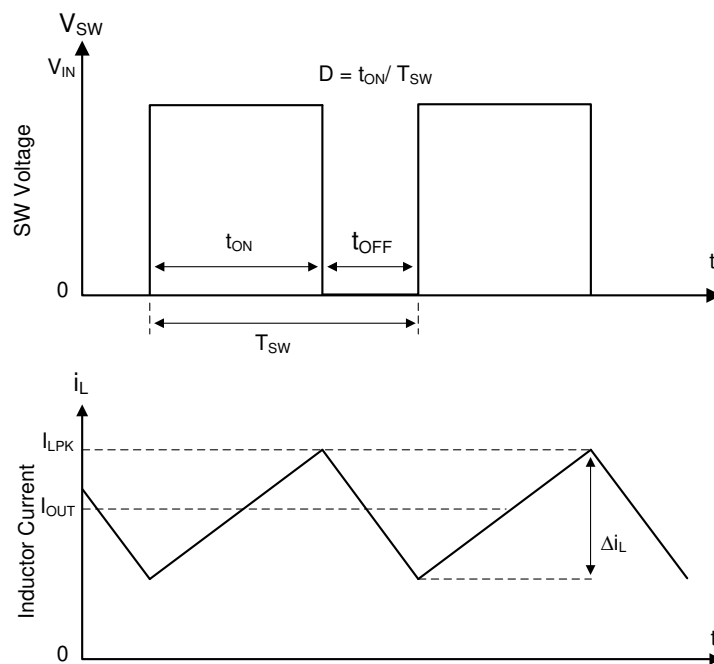

図 7-1. SW Node and Inductor Current Waveforms in Continuous Conduction Mode (CCM)
The following operating description of the LMR51603-Q1 refers to the Functional Block Diagram and to the waveforms in Figure 7-1. The LMR51603-Q1 is a step-down synchronous buck converter with integrated high-side (HS) and low-side (LS) switches (synchronous rectifier). The LMR51603-Q1 supplies a regulated output voltage by turning on the high-side and low-side NMOS switches with controlled duty cycle. During high-side switch ON time, the SW pin voltage swings up to approximately V_{IN} , and the inductor current, i_L , increases with a linear slope of $(V_{IN} - V_{OUT}) / L$. When the high-side switch is turned off by the control logic, the low-side switch is turned on after an anti-shoot-through dead time. Inductor current discharges through the low-side switch with a slope of $-V_{OUT} / L$. The control parameter of a buck converter is defined as Duty Cycle $D = t_{ON} / T_{SW}$, where t_{ON} is the high-side switch ON time and T_{SW} is the switching period. The converter control loop maintains a constant output voltage by adjusting the duty cycle D . In an ideal buck converter, where losses are ignored, D is proportional to the output voltage and inversely proportional to the input voltage: $D = V_{OUT} / V_{IN}$.